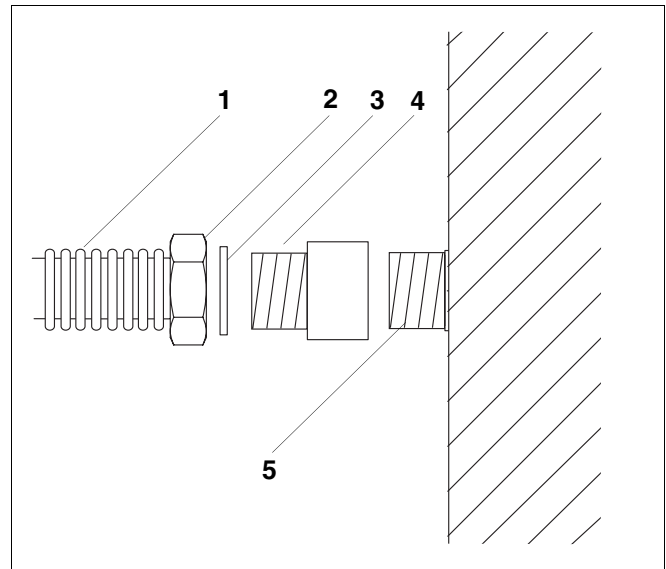

Fig. 9 Connect the corrugated stainless steel hose with R1 connections.
The union Rp1 × R1 (Fig. 9, **item 4**) is used on the cylinder connection R1 (Fig. 9, **item 5**), to provide an improved sealing face and therefore a better seal at the cylinder connection.
- Thread the union Rp1 × R1 (Fig. 9, **item 4**) onto the cylinder connection R1 (Fig. 9, **item 5**) to connect the cylinder with the complete station.
- Insert the gasket (Fig. 9, **item 3**) into the pre-assembled union nut Rp1 (Fig. 9, **item 2**).
- Thread the pre-assembled union nut Rp1 (Fig. 9, **item 2**) of the corrugated stainless steel hose onto the R1 thread of the union Rp1 × R1 (Fig. 9, **item 4**).